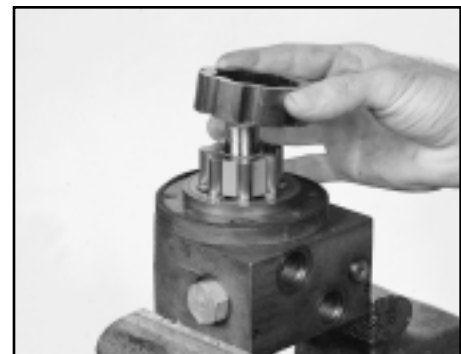

Figure D12
9. Remove the outer, rolls, inner and valve plate. SEE FIGURE D12.